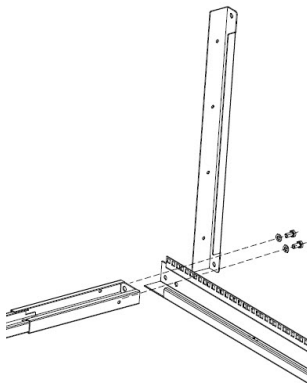

Figure 7
17. Insert eight **M8 Bolts** through eight **M8 Washers** and into the holes in the **Top Brackets** and the tops of the **Vertical Rails**. (Figure 7)